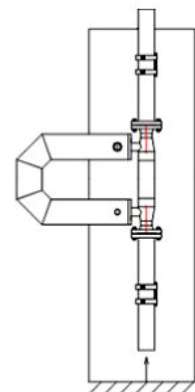

Figure 3
3. The meter should be installed sideward when the medium is turbid liquid (Figure 3) to avoid particulate matter accumulated in the measuring tube. The flow direction of medium goes from the bottom up through the sensor.